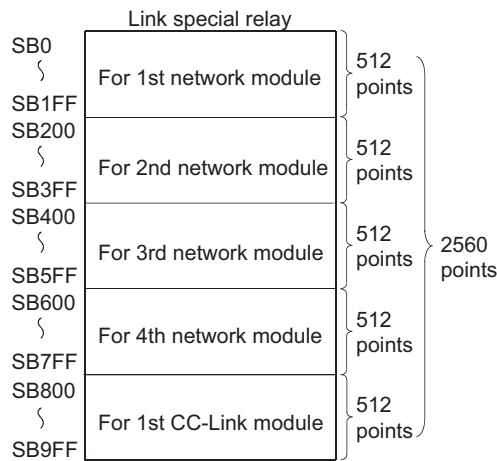

Figure 9.20 Points of the link special relay
Assigning the link special relay as shown in Figure 9.20 allows refresh of the CC-Link link special relay (SB) to the link special relay (SB) of the CPU module.